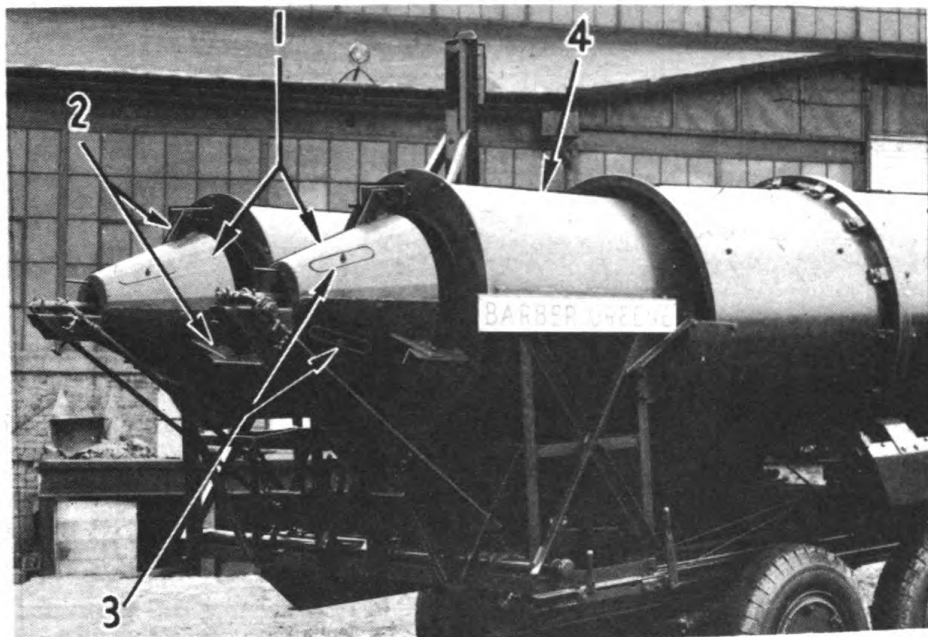

FIG. 21 - REAR END OF DRYER SHOWING PRINCIPAL PARTS OF COMBUSTION SYSTEM.
The function of the combustion cone is to control the amount of secondary air necessary for proper combustion. Each dryer drum is provided with a combustion cone (1) Fig. 21, located between the burner and the combustion chamber.
The combustion chamber (4) Fig. 21, consists of a steel drum, the inner circumference of which is lined with fire brick. A combustion chamber is mounted at the discharge end of each drum.